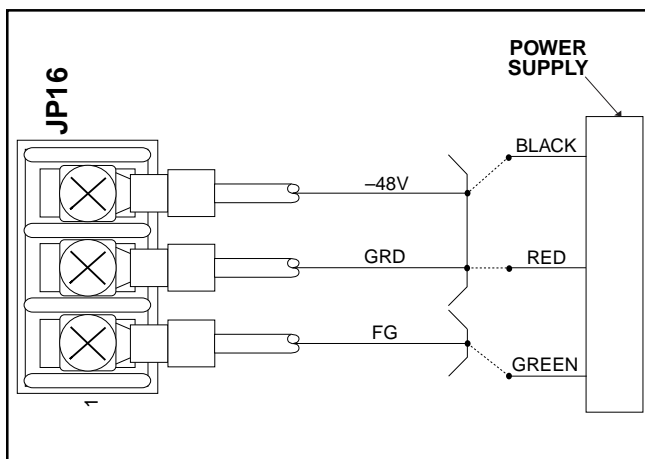

Figure 10. Power Connections on JP16
The BR1/10 Wall Mount Chassis provides a three-position terminal strip, JP16, on the backplane for power connections. Ring lug terminations are recommended for connecting to JP16. When using the ADTRAN Wall Mount Power Supply, part number 1150101L1, insert the -48V wire (**BLACK**) into terminal 3 (-48I) of JP16. Insert the return wire (**RED**) into terminal 2 (-48R). Insert the frame ground wire (**GREEN**) into terminal 1 (FG). See Figure 10.